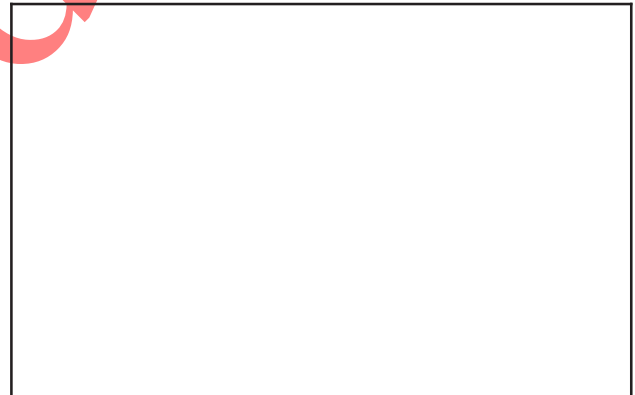

Fig. 1 – Checking Cylinder
1. Check cylinder head mounting surface for distortion with a straight edge, Fig. 1.